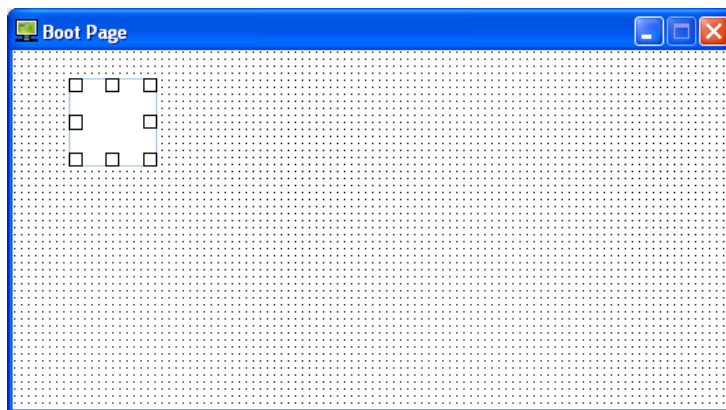

Figure 6-9 Inserting a static image
- Step 2: Only geometric object, static text, and static images can be inserted in the **Boot Page** window. After the users click **Static Bitmap** on the object toolbar, they can click where they want to begin the selection of an area in the **Boot Page** window, hold down the left mouse button, and drag the cross over the area that they want to select. The object  will be inserted into the area selected after the users release the left mouse button, as shown in Figure 6-9.